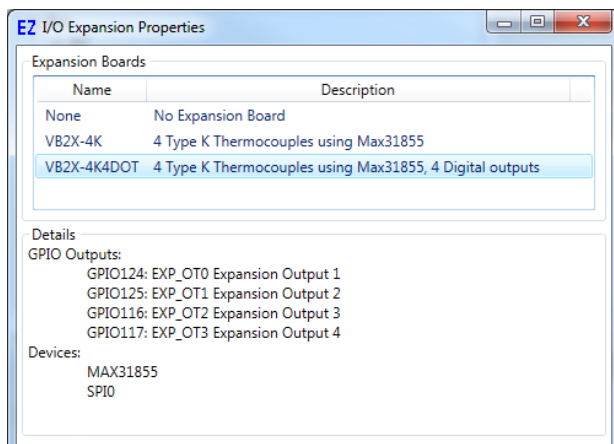

Figure 1-4 - I/O Expansion Properties
- Highlight the **I/O Expansion** in the list and click the **PROPERTIES** button on the right side of the Expansion pane in the VB-2000 Properties Window. The I/O Expansion Properties Window will open. Refer to Figure 1-4.
- Select the VB2X-4K4DOT expansion board from the list of Expansion boards. Refer to Figure 1-4. The Details section of the window will update with the devices supported on the expander (for reference only) that will be installed in the project settings of the program.